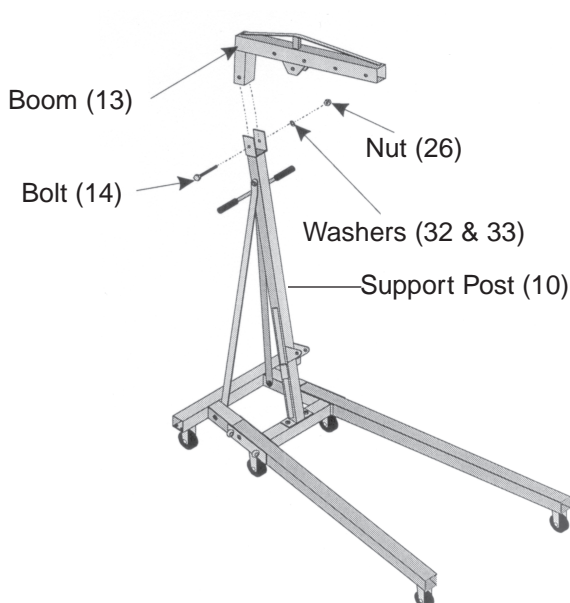

Figure 4A -Assembling the Boom
Step 7) Set the Boom (13) onto the top of the Support Post (10). Insert Bolt (14) through the holes, then slide on Washer (30) and Spring Washer (31). Tighten on Nut (26) - see Figure 4A.